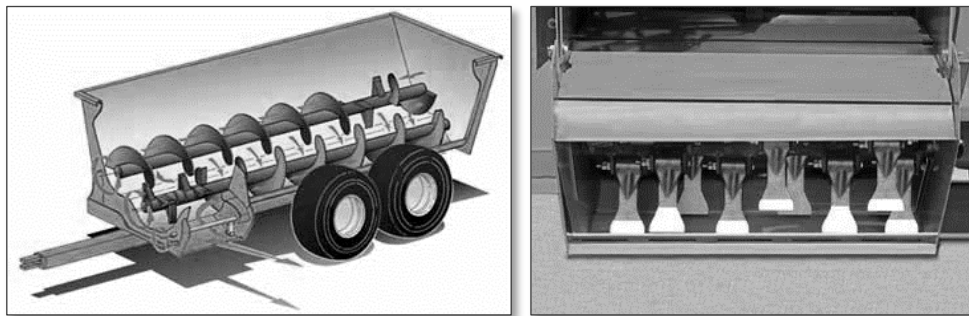

Figure 9-8. Side-discharge manure spreader augers and hammer expeller discharge port.
- ❑ **Side-discharge manure spreader.** This type of spreader has a V-shaped hopper (to prevent material hanging up) and augers to move residuals toward the discharge port. A rotating paddle or set of spinning hammers slings the material out of the discharge port (Figure 9-8).